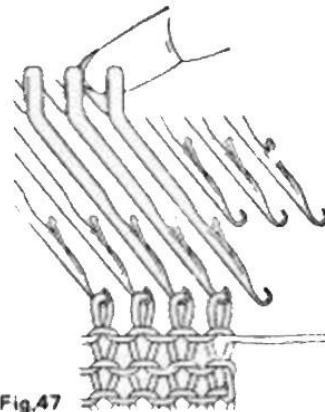

Fig.47
- (c) Bring forward empty alternate needles with other all working needles into position (E), and knit the remaining number of rows for the hem, i.e. 15 rows if the total is 30.
At the same end nearest the carriage, bring forward from position (A) into position (B) the next empty needle, and knit. (Fig.47)